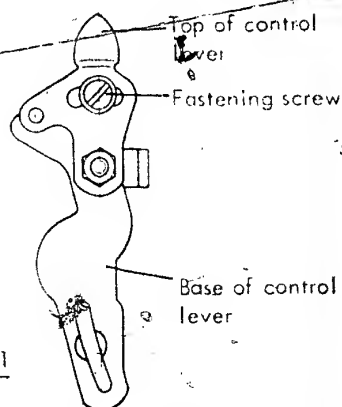

Fig. 1
2.3 Position the quiet-idle device lever exactly vertically, pointing upwards, towards the return fitting (see fig. 1).